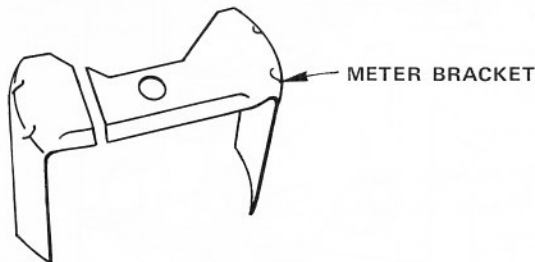

FIG. 2
4. (Model Numbers 917.2588(0 and up), 917.2587(0 and up), 917.2586(0 and up), 917.2575(0 and up), 917.2574(0 and up) and 917.2573(0 and up) only). Cut Meter Bracket as shown and discard smaller section (Fig. 2).